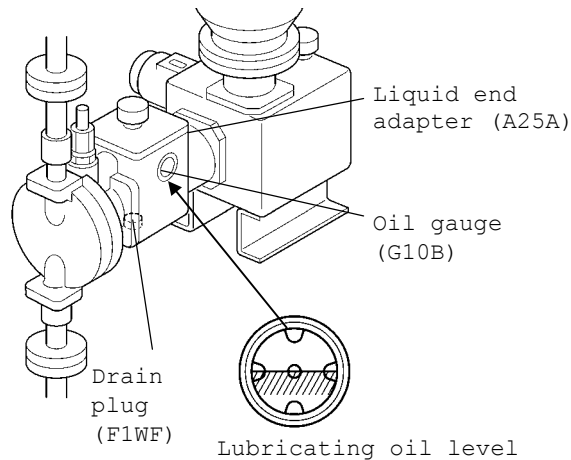

Fig.2-6 Check of hydraulic oil
As the Type L crankcase has no oil gauge (A), check the oil level with the oil gauge (B) which is shown in Fig.2-6.